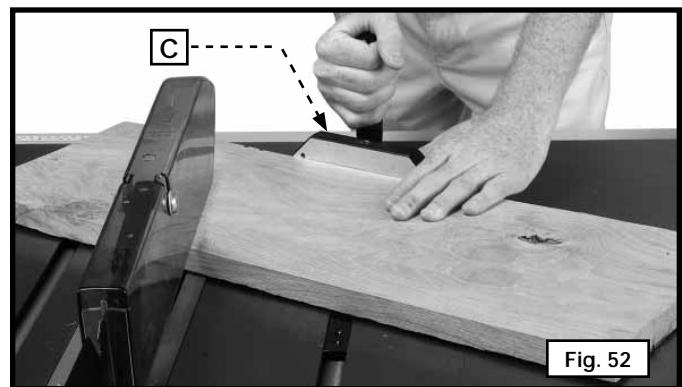

Fig. 52
Mitering (the operation shown in Fig. 52) is the same as crosscutting except that the miter gauge (C) is locked at an angle other than 0°. Hold the workpiece firmly against the miter gauge and feed the work slowly into the blade to prevent the workpiece from moving.
- If the size or shape of the workpiece would cause your hands to be within six inches of the saw blade, use a push stick to complete the cut (Fig. 52) The push stick can easily be made from scrap material as explained in the section "**CONSTRUCTING A PUSH STICK.**"